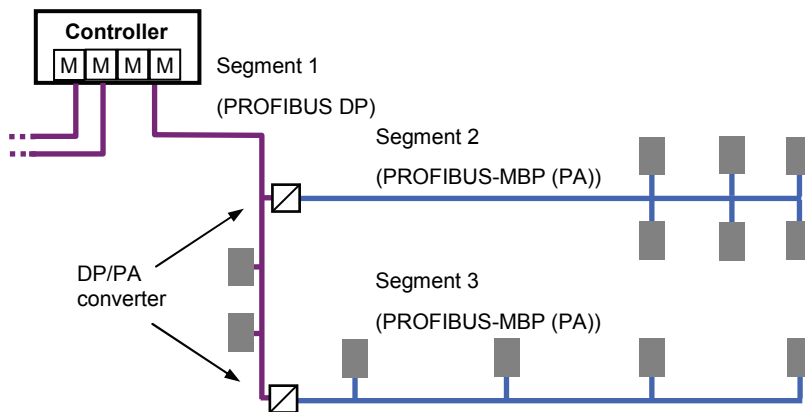
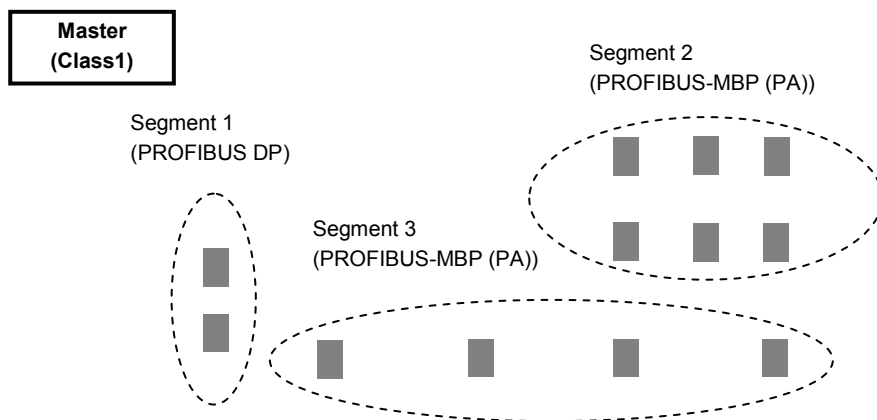

Figure 2-3 Possible line setup
Figure 2-4 Segment forming using node groups
Figure 2-3 shows a possible setup of a network to provide an overview
Arrange the segments to be formed into node groups which can be assigned to either PROFIBUS DP or PROFIBUS-MBP (PA). These node groups should be placed close to each other or on the same line. Figure 2-4 illustrates this segment forming method using the line shown in Figure 2-3 as an example.
Divide the bus nodes to be connected to a line into individual segments and assign one of the two PROFIBUS types to them. In order to obtain a better overview, you should use a sketch in the first step (see Figure 2-4).